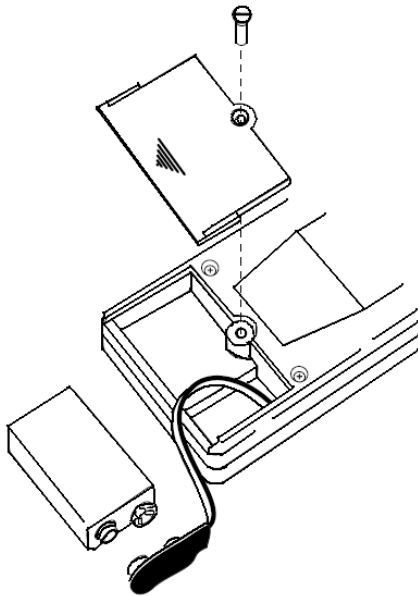

Figure 4. Battery Replacement
The apparatus uses a 9 V battery (supplied). To replace the battery, follow these steps and refer to Figure 4:
5. Replace the battery as shown in Figure 4. Observe the battery polarity shown in the battery compartment.